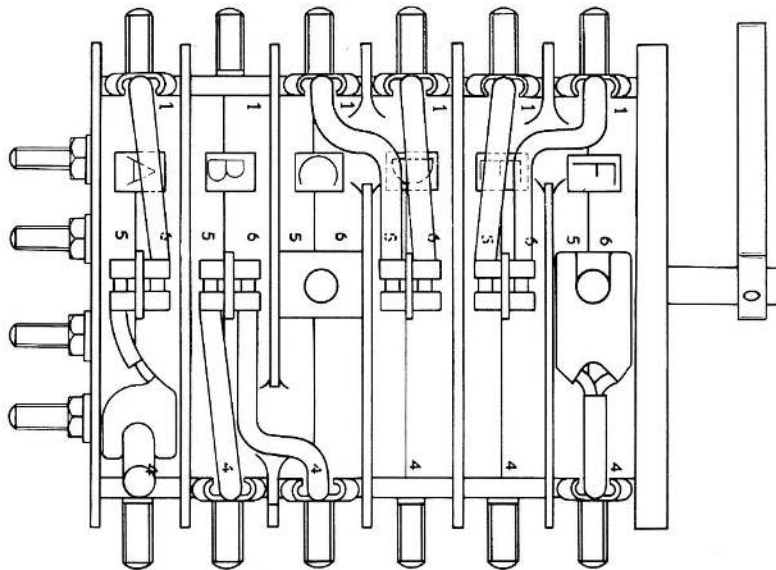
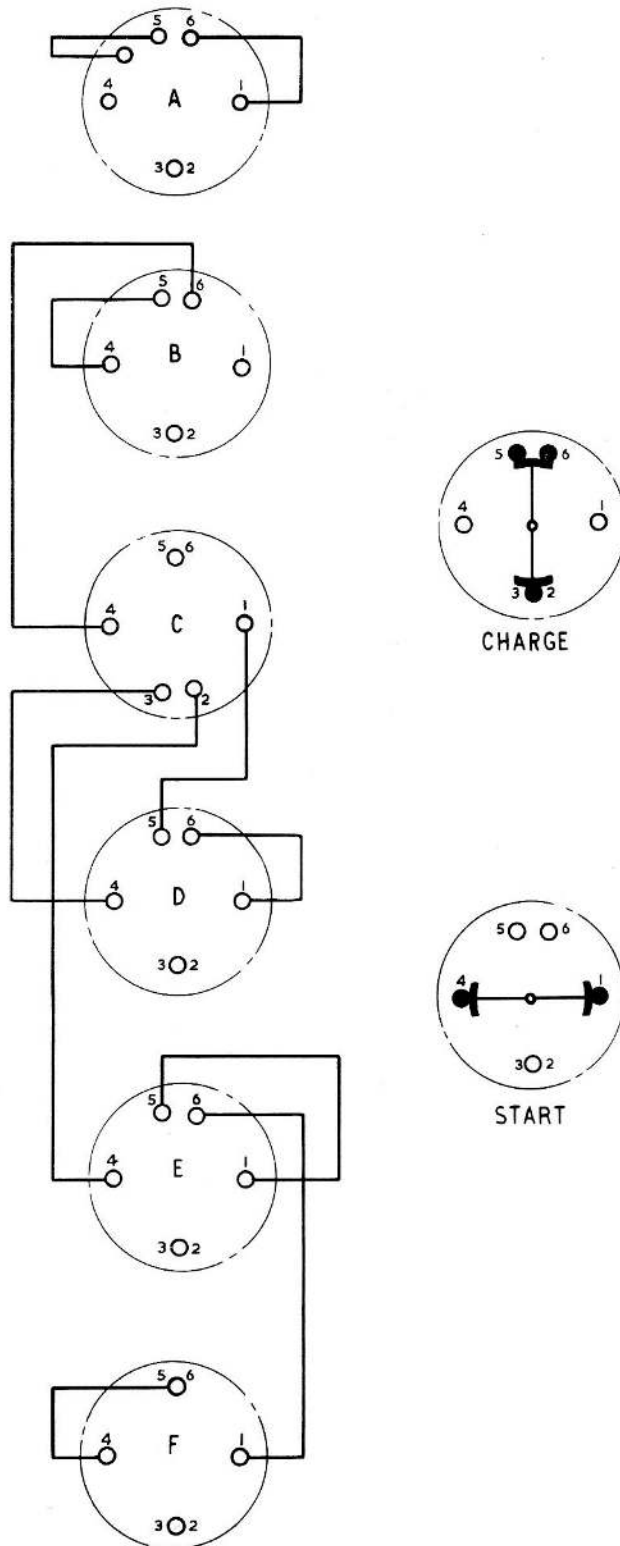

Fig. 1. Change-over switch type 6-2N3219/2
Fig. 2. Diagram of internal connections
2. The switch unit consists of six knife-switch sections assembled on a common shaft, each section being separately identified A to F (fig. 1). Fitted to one end of the shaft is a lever to operate the two positions of the switch, STARTING and CHARGING. The terminals for the electrical connections are shown in fig. 2, the terminal posts are $\frac{5}{16}$ in. B.S.F bolts and the cables are secured to these by stiff nuts. Section A is normally connected to a relay energizing circuit on the aircraft and sections B,C,D,E and F are connected to the aircraft batteries.